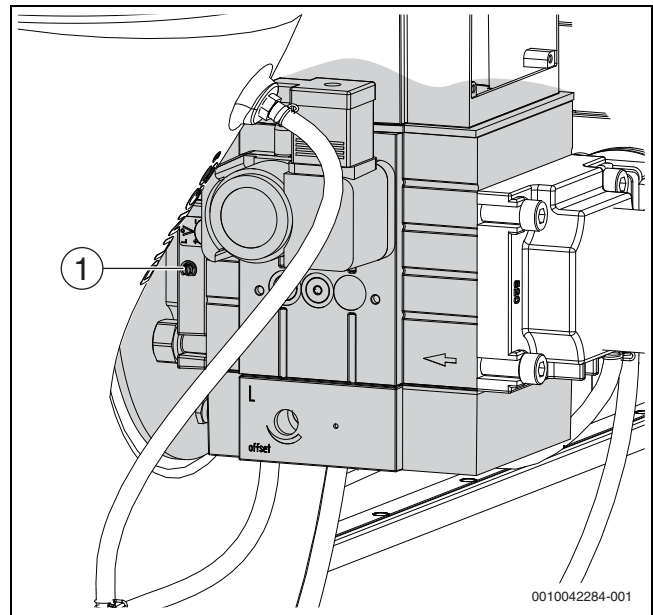

Fig. 36 Carry out a  $\text{CO}_2$  adjustment at full load
- In the case of  $\text{CO}_2$  values below 8.7% or above 9.2% correct 9.7% the setting on the high full load screw to (→ Fig. 36).